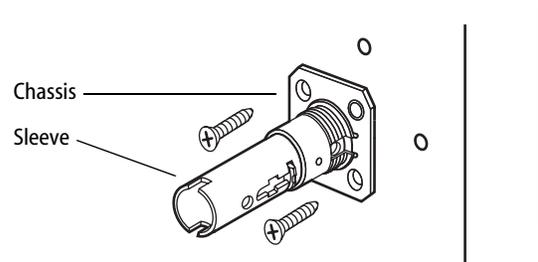

Figure 3– Installing the 8K single dummy trim
- Fasten the chassis onto the door with the screws provided. See Figure 3.